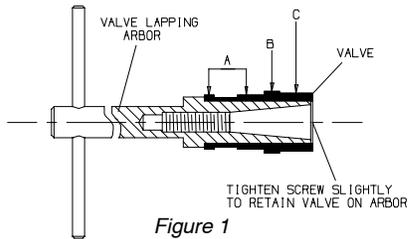

Figure 1
1. An oversize Valve (20) must be lapped into the Valve Box (18). Use Grade 320 lapping compound and proceed as follows:
- a. Install the Valve on the No. 29189 or No. 29407 Valve Lapping Arbor as shown in Figure 1.